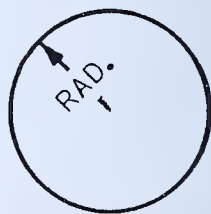

FIG. 248 — *Radius*
**RADIUS** — Fig. 248. The distance from the center of a circle to the circumference; one half of a diameter.